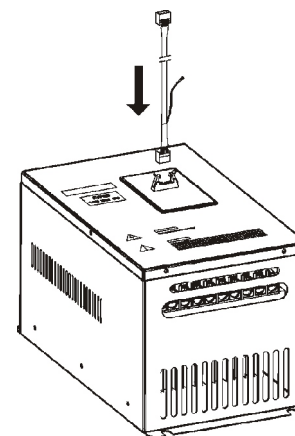

Fig. 3-14 Mounting Diagram of the operator panel and connecting wire of the inverter Model B
Step 4. Plug the grounding end of connecting wire into the slot of jack panel (as shown in Figure 3-14).